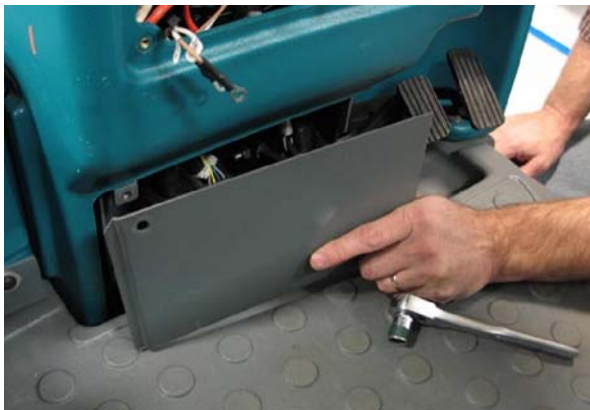

FIG. 2
2. Remove the access panel. (Fig. 2)